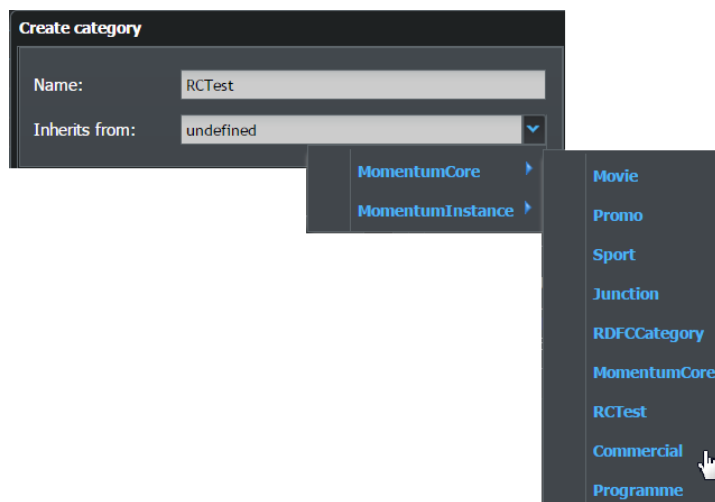

Fig. 5-129: Admin Page - Create Category Drop-down Menus
- 3 This opens the **Create category** dialog, see Figure 5-129.
- 5 Click the **Inherits from** drop-down menu and select the Category from which to inherit the metadata schema, see Figure 5-129.